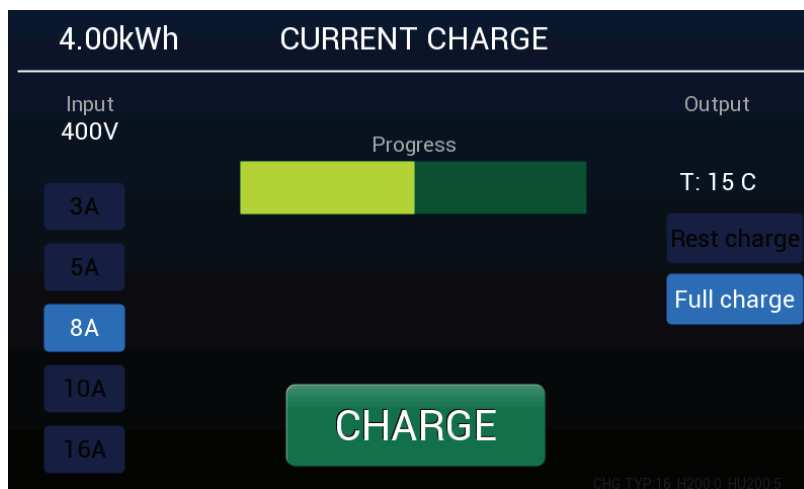

Figure 009
5. Select “FULL CHARGE” option on the charger display, see Figure 009.
6. Select desired charging current input on the left-side list, see Figure 009.
7. Press “CHARGE” on the charger display to start the charging procedure, see Figure 009.